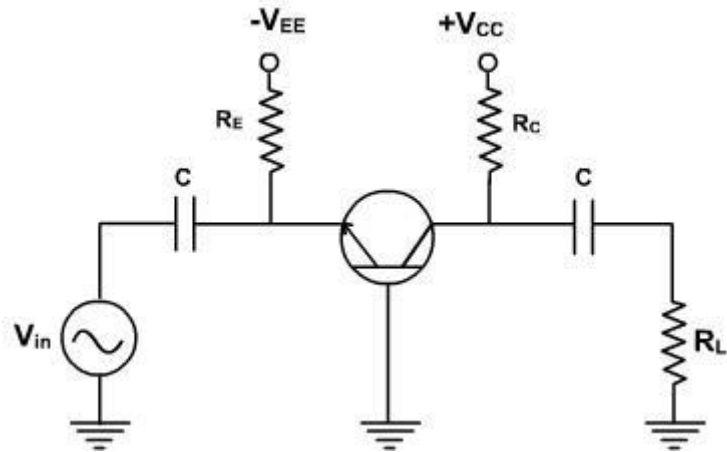

Fig. 1
**Fig 1. 8** shows the CE amplifier equivalent circuit in terms of h-parameters. Since  $1/h_{oe}$  in parallel with  $R_L$  is approximately equal to  $R_L$  if  $1/h_{oe} \gg R_L$  then  $h_{oe}$  may be neglected. Under these conditions.
The common base amplifier circuit is shown in Fig. 1. The  $V_{EE}$  source forward biases the emitter diode and  $V_{CC}$  source reverse biased collector diode. The ac source  $v_{in}$  is connected to emitter through a coupling capacitor so that it blocks dc. This ac voltage produces small fluctuation in currents and voltages. The load resistance  $R_L$  is also connected to collector through coupling capacitor so the fluctuation in collector base voltage will be observed across  $R_L$ .